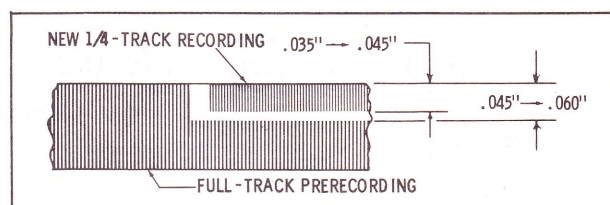

Fig. 20. Magnetic Dispersal Pattern
3. Submerge a small section of the tape as described in the Magna-See Kit instructions. The pattern should appear as shown in Fig. 20. Inexpensive pocket microscopes calibrated in thousandths of an inch can be used to measure the track width.